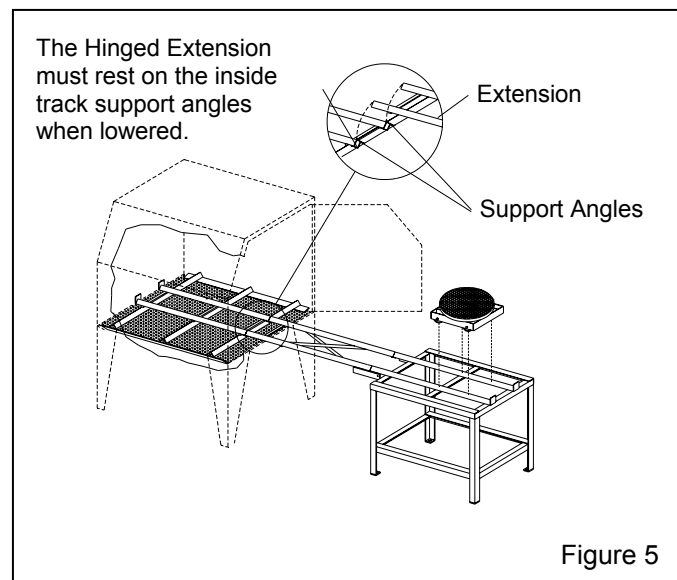

Figure 5
**3.4.3** Position the track support table and extension as shown in Figure 5. When the hinged extension is lowered, the extension tracks must rest on the angled locating supports welded to the bottom of the inside tracks, and butt against the inside tracks.